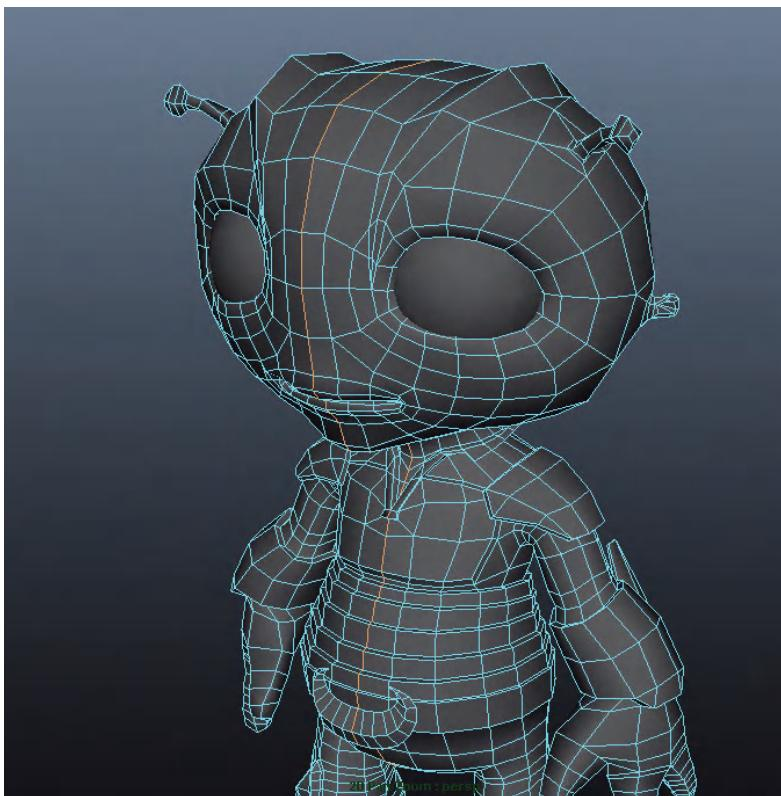

FIG 4.87 Softening out the hard edge in the middle of the form.
Step 110: Soften the middle edge. Double-click the middle edge – the edge along the mirror axis – and choose Polygons|Normals > Soften Edge (Fig. 4.87).